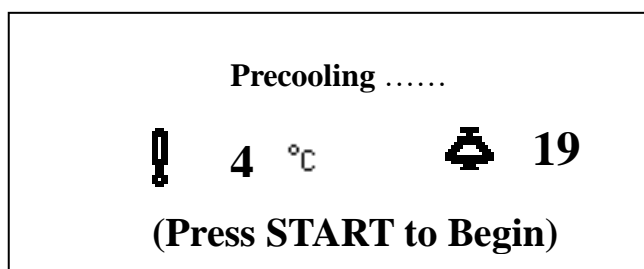

Figure 7-5 Pre-cooling interface
■ The pre-cooling screen is shown as figure 7-5.